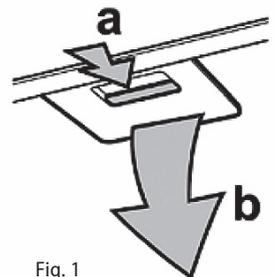

Fig. 1
1. Remove the metallic filters (Fig. 1). In case there are carbon filters mounted, remove them.
1. By shifting the plastic stoppers, demount the bottom metal cover of the appliance (Fig. 1).